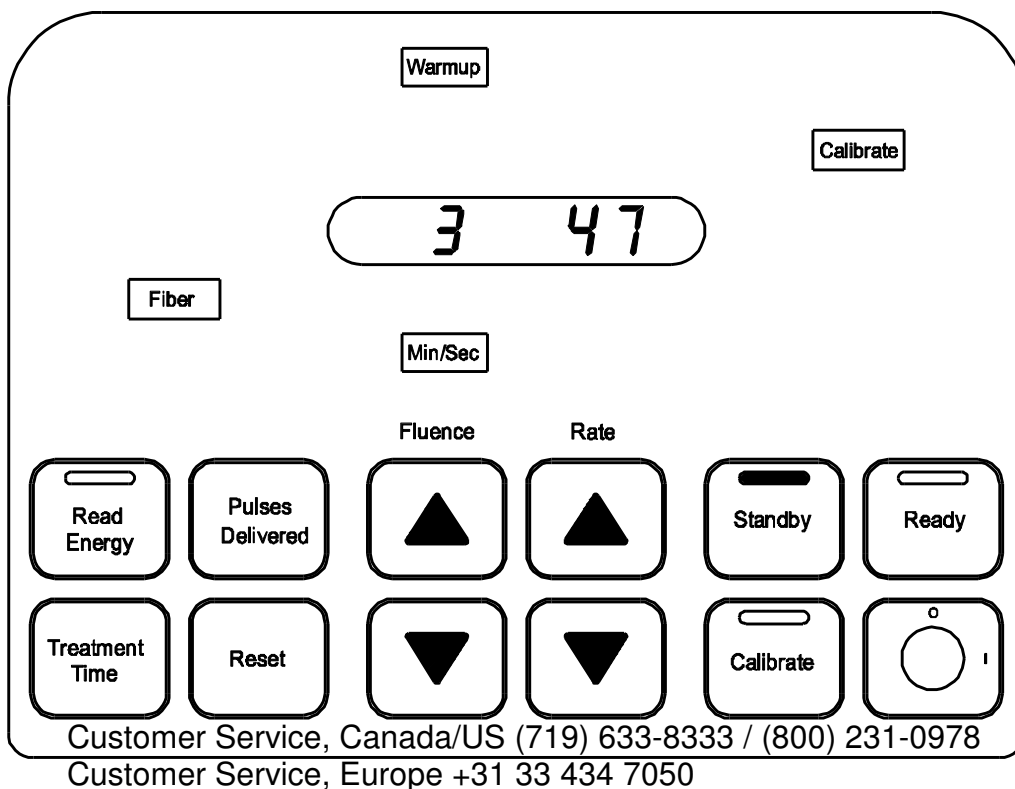

Figure 8
1. When the system is in **Warm-up** mode, the **Warm-up** advisory light will be illuminated. The **Standby** button and green status light on the top of the control panel are also illuminated. (Figure 8)